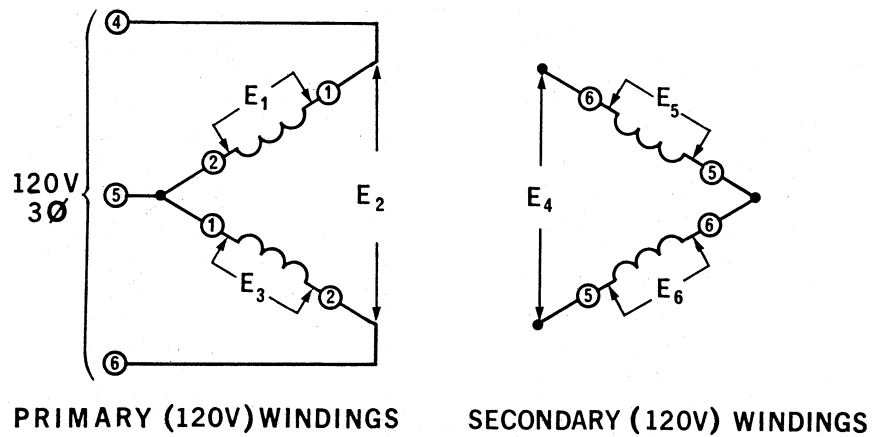

Figure 48-9.
- 5. a. The circuit shown in Figure 48-9 has two transformers connected in a open-delta configuration.